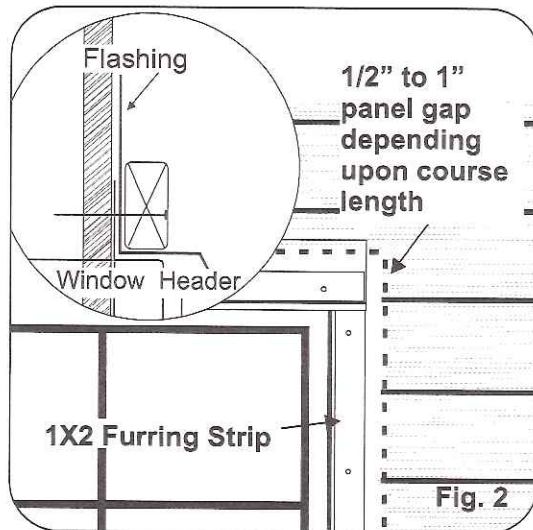

Fig. 2
- Make sure to install the proper flashing as required by specific local building codes (Fig 2)